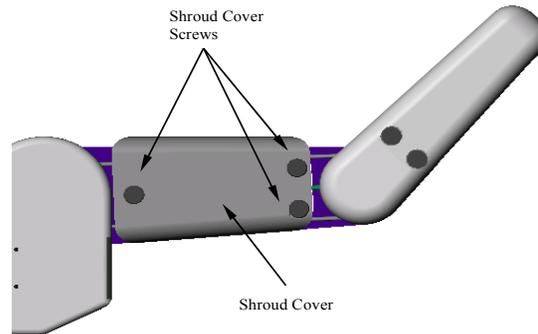

Figure 23 - Shroud Removal
3. Remove the Shroud Cover screws shown in Figure 23. Some models of the BarrettHand™ will have four Shroud Cover screws. Remove the Shroud from the finger link.
1. The finger cable is broken. Verify this by removing the Shroud Cover, see Figure 23, and inspecting the cable. The cable should be intact and not broken. If the cable is broken, contact Barrett Technology.
2. The finger cable is broken. Verify this by removing the Shroud Cover, see Figure 23, and inspecting the cable. The cable should be intact and not broken. If the cable is broken, contact Barrett Technology.